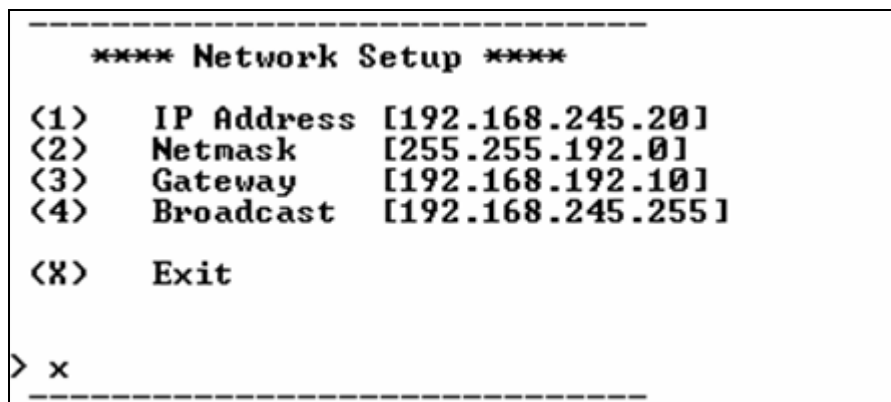

Figure 2-6: Network Setup Menu
7. A *Network Setup* screen, as shown in Figure 2-6, will appear enabling the user to enter the appropriate network information.